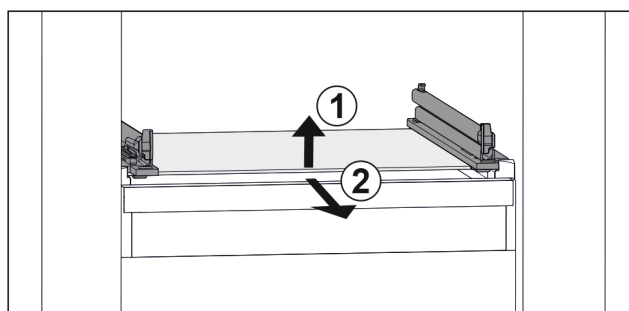

Fig. 98 Example illustration of glass shelf
- Lift glass shelf at the front. Fig. 98 (1)
- Take out glass shelf to the front. Fig. 98 (2)